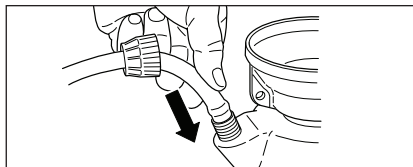

Figure 1. Install Hose
1. Push the hose barb completely into the tank. See Figure 1.